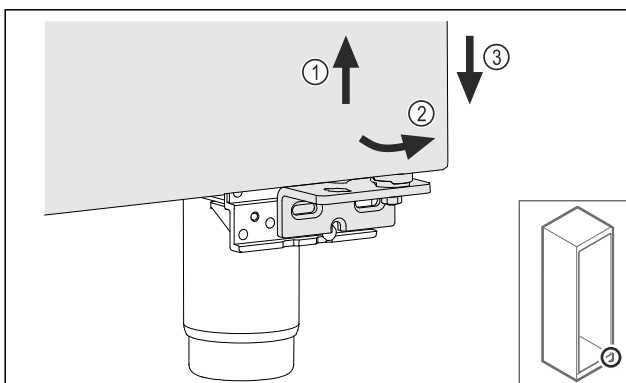

Fig. 23
- ▶ Lift the door slightly Fig. 23 (1), tilt it forwards at the bottom Fig. 23 (2) and lower it Fig. 23 (3).